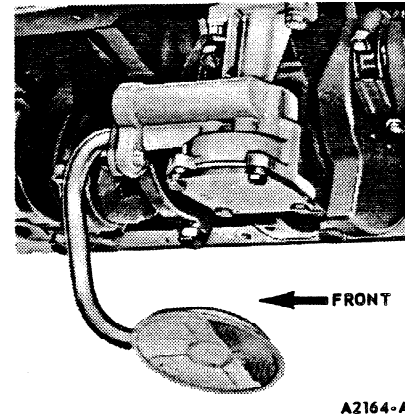

FIG. 51 Oil Pump Installed
2. Remove the oil pump attaching bolts (Figure 51). Discard the gasket.